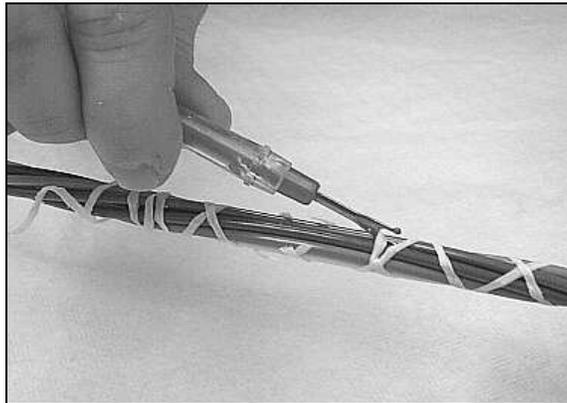

Figure 26 - Cut and remove the binder thread from the core.
6.16 For single jacket and *Option1* cables, use a seam ripper to cut and remove the binder threads from stranded buffer tubes (Figure 26). Cut the binder threads flush with the outer jacket. For *AccuTube* cables, use a seam ripper to cut the binder threads over the water blocking tape. Remove the binders and water blocking tape and cut flush with the outer jacket. Use a seam ripper to cut and remove the second layer of binder threads from the stranded buffer tubes.